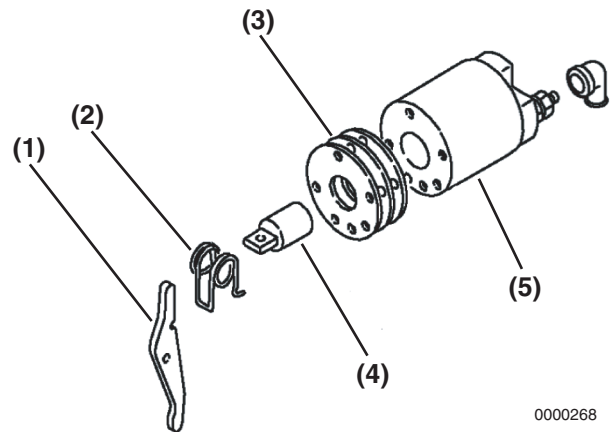

Figure 11-28
4. Apply NFC-F6A grease to the sliding portions of the shift lever (Figure 11-28, (1)). Reassemble the torsion spring (Figure 11-28, (2)), shift lever and dust cover(s) (Figure 11-28, (3)), plunger (Figure 11-28, 4) and magnetic switch assembly (Figure 11-28, (5)).